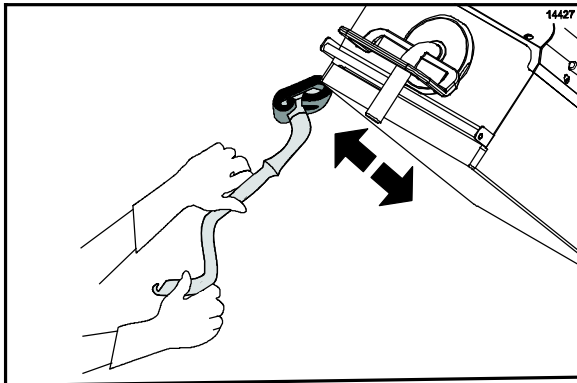

Figure 92
18. Apply the grill cleaner to the outer edges of the right and left platens. (See Figure 92.)